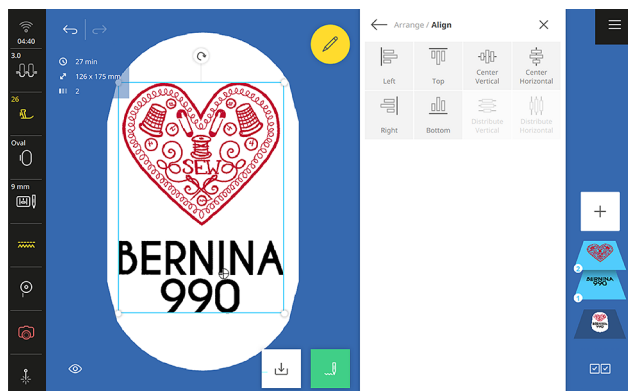

Fig. 52
12. Tap Align from the Arrange submenu, then choose Center Horizontal (Fig. 52).